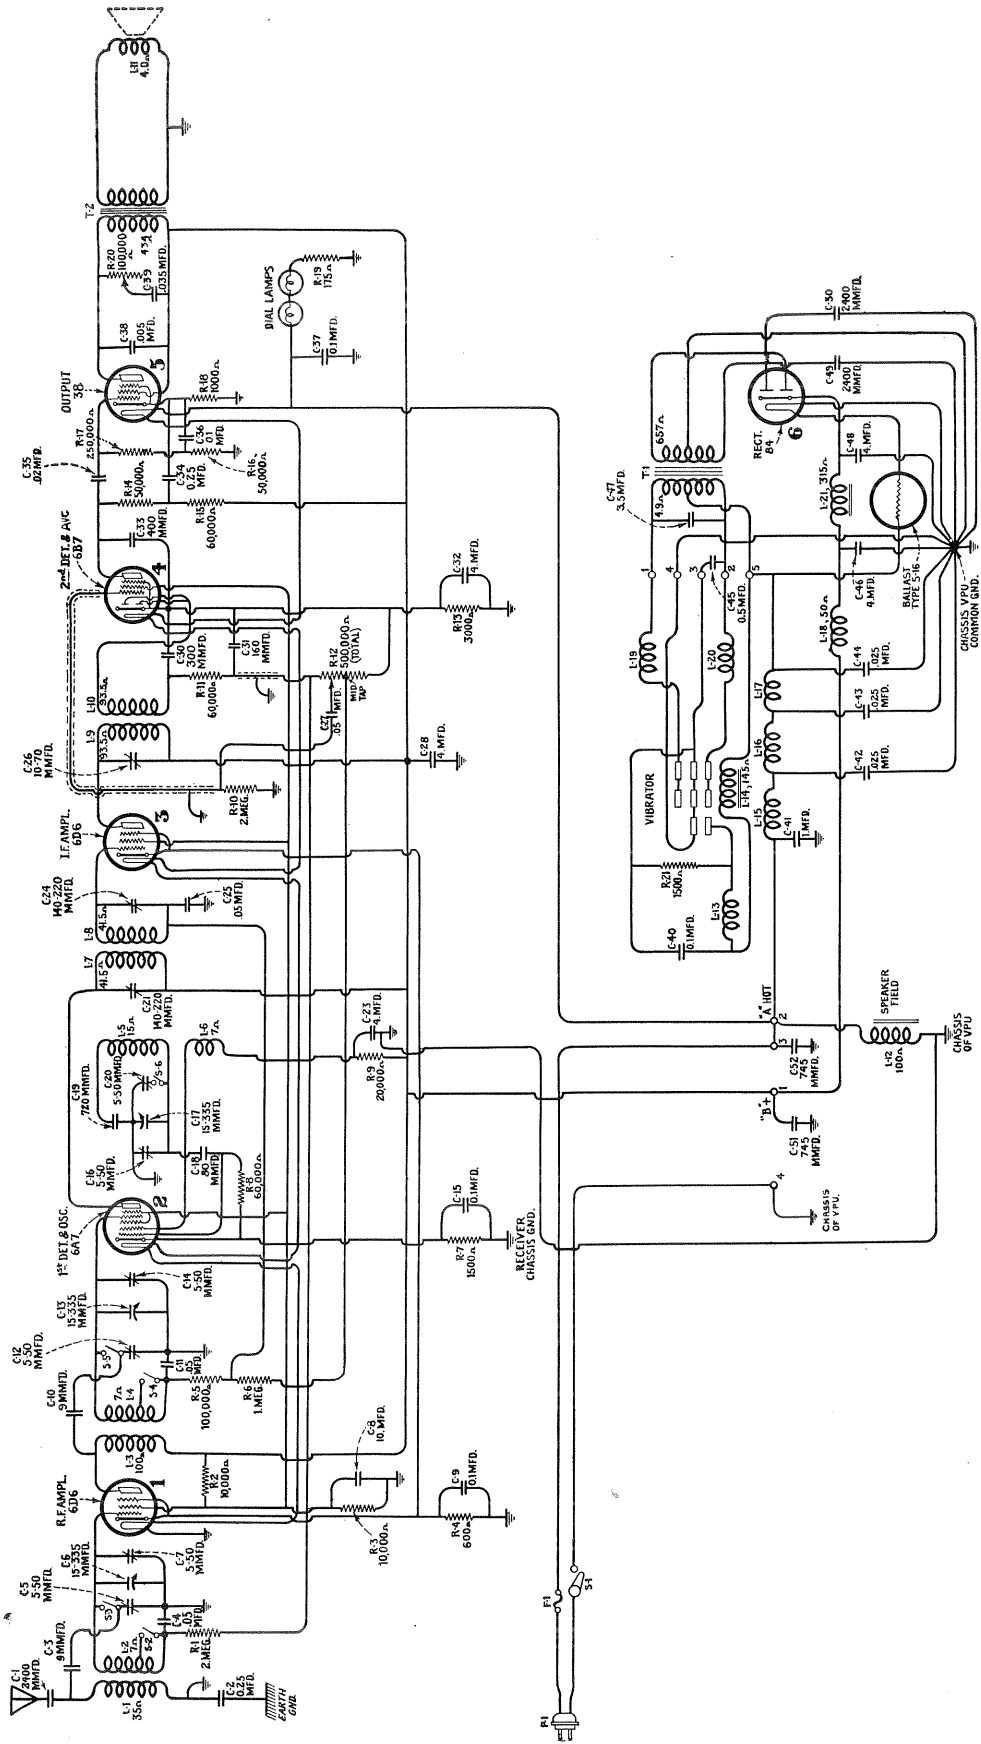
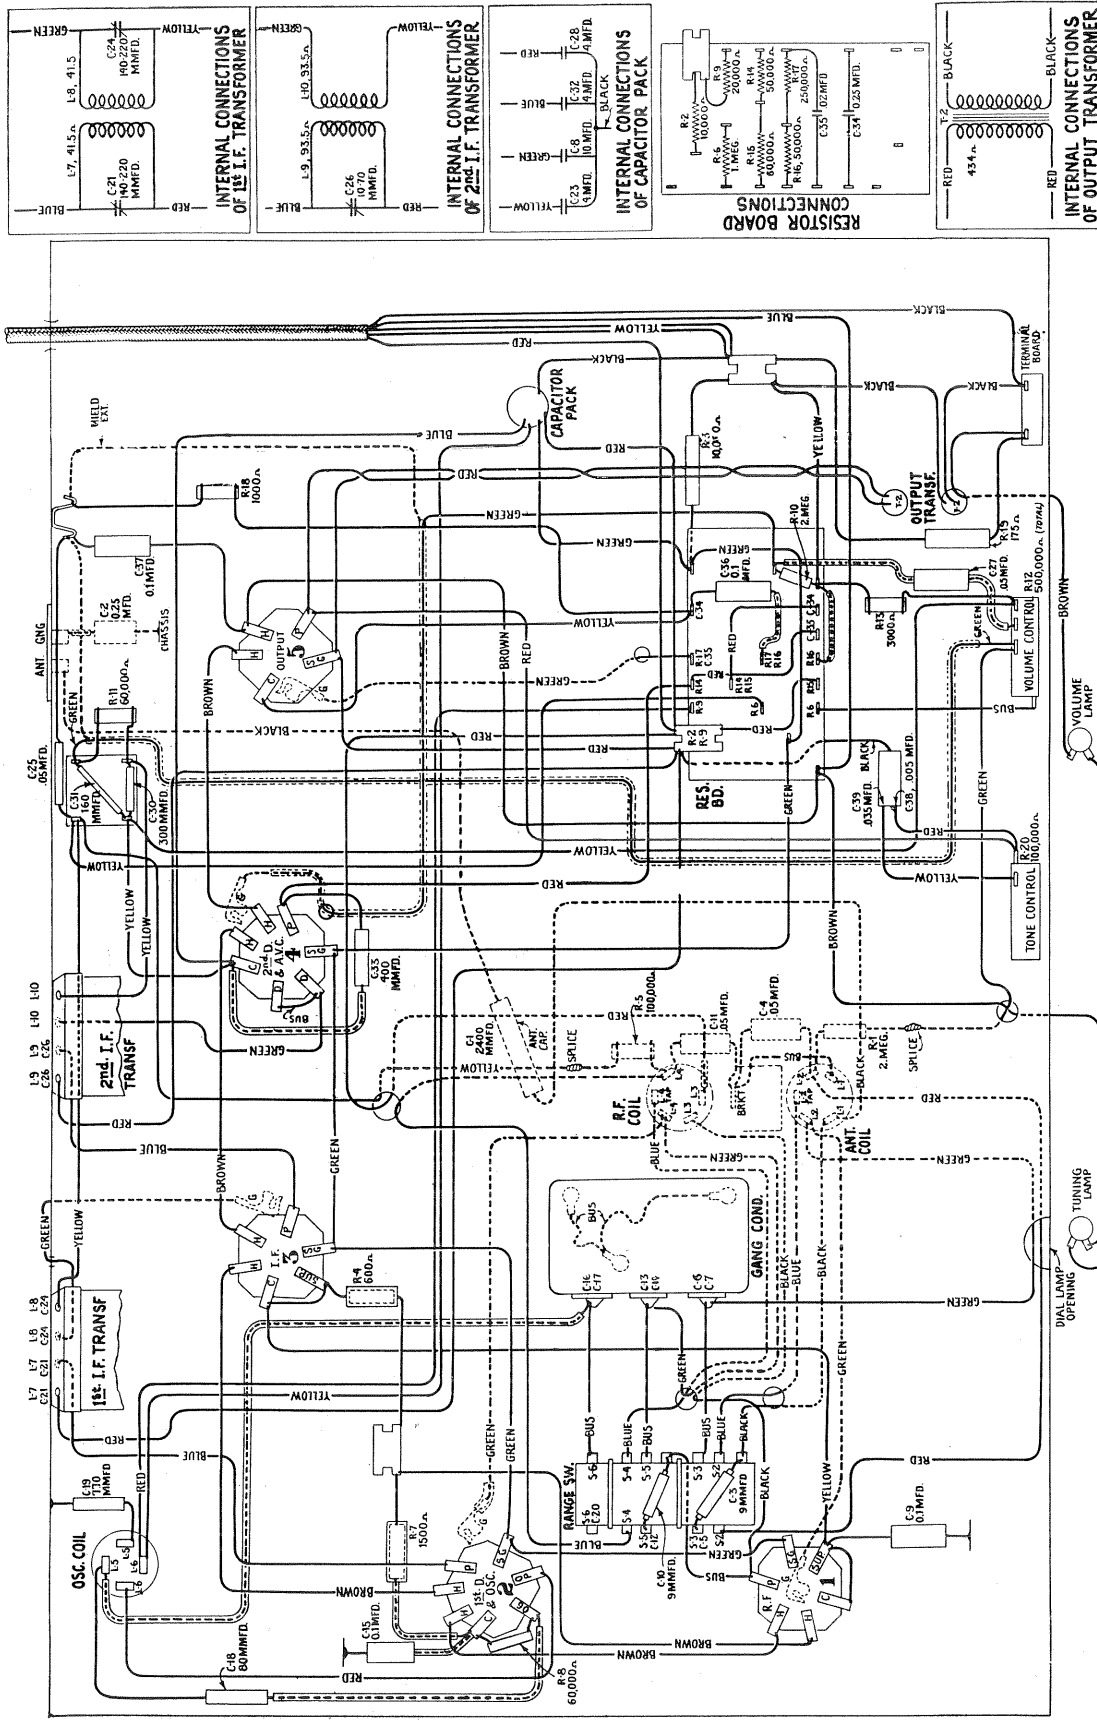
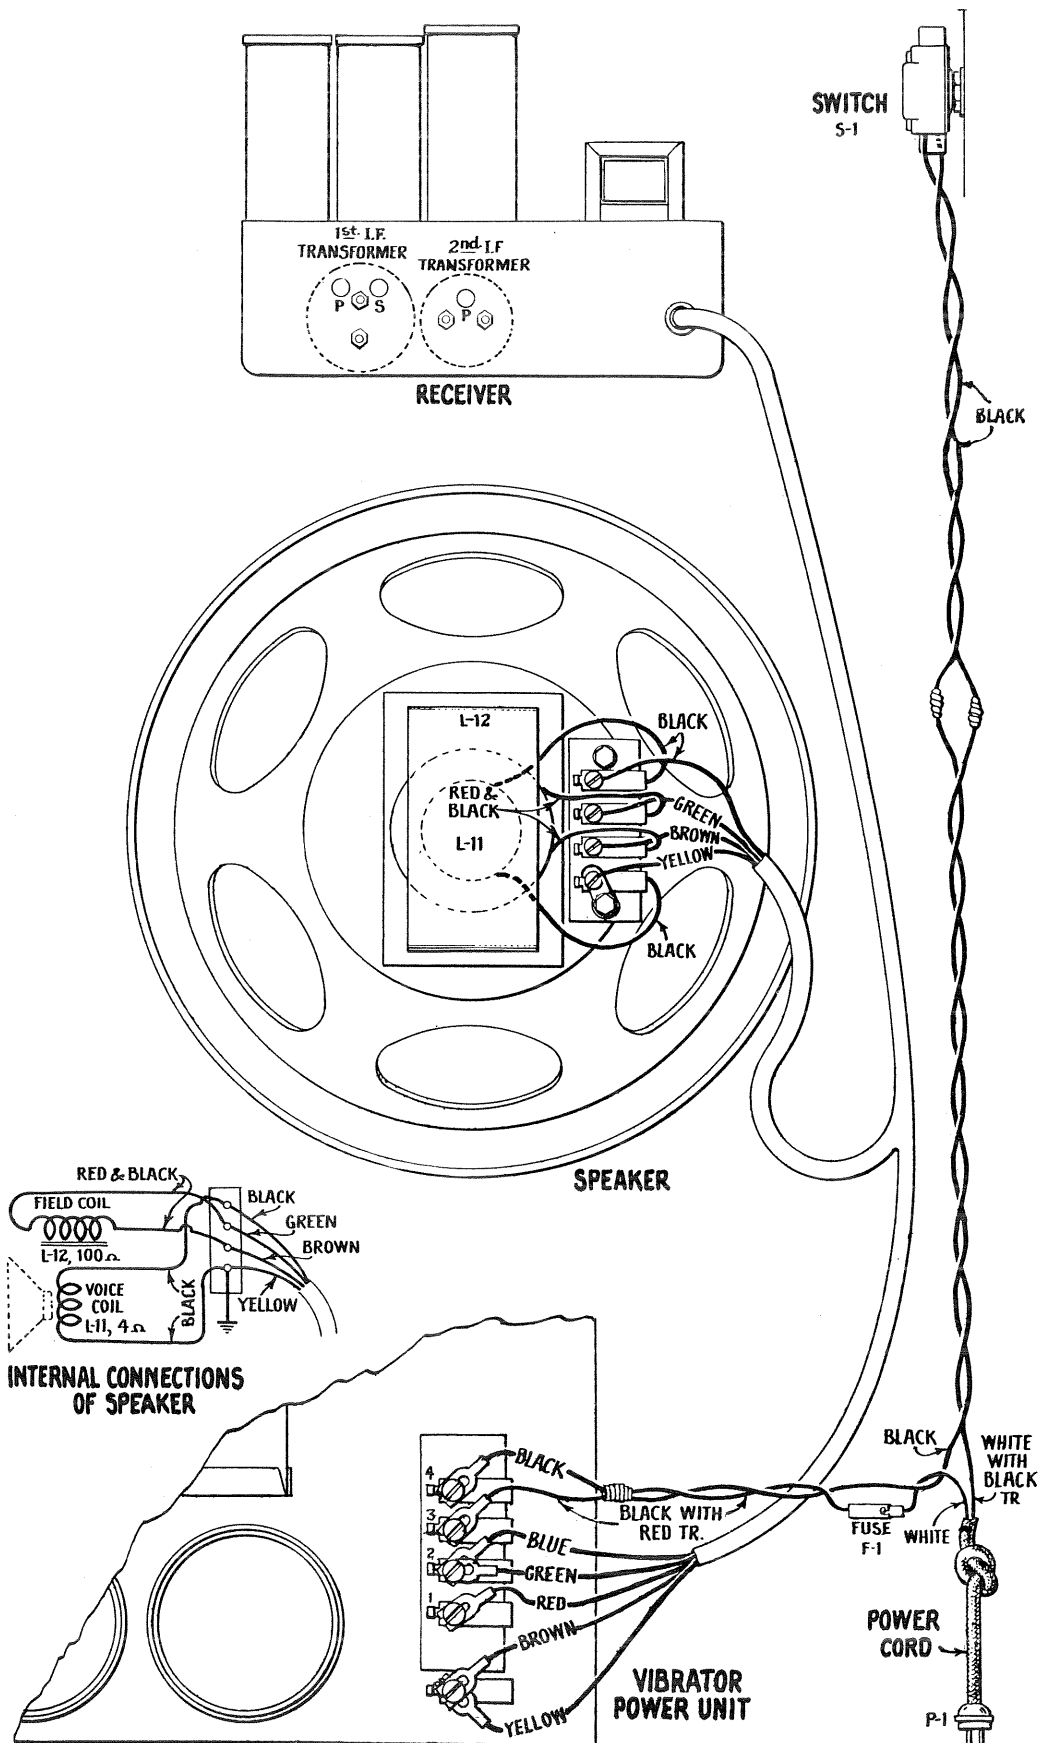

Figure 1—Schematic Circuit Diagram
Figure 2—Chassis Wiring Diagram
Figure 5—Assembly Wiring Diagram
Figure 1 shows the schematic circuit diagram, Figures 2 and 3 the chassis and power unit wiring, and Figure 5 the assembly wiring diagram. The replacement parts are given on page 9.
1. At the broadcast position all of the additional circuits are open as shown in Figure 1.